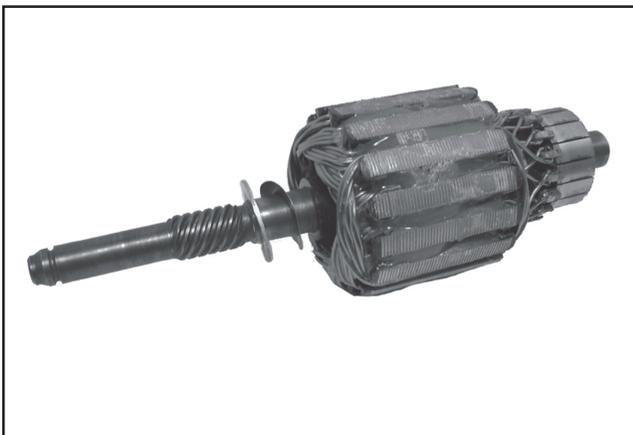

Figure 7-18. Washers Installed on Armature.
1. Place the wave washer, followed by the thrust washer onto the drive shaft of the armature. See Figure 7-18.